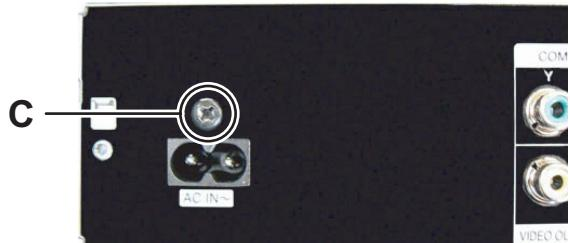

Fig.6
### 3.3 Removing the SMPS board (See Fig.6, 7)
- (1) Remove the one screw **C** attaching the AC jack. (See Fig.6)